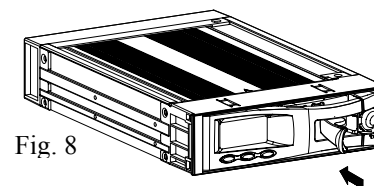

Fig. 8
- Push carrier body further into cartridge frame until fully inserted. (Fig. 8)